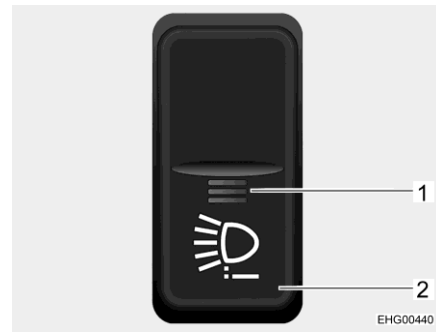

Fig. 15 Rocker switch
- Press rocker switch (Fig. 15,2). The function indicator (Fig. 15,1) is lit red. The text message "Additional lighting active" appears briefly in the display of the combined instrument.
To deactivate the additional LED main beam, either switch off the engine or press the rocker switch (Fig. 15,2) again. The red function indicator (Fig. 15,1) goes out.